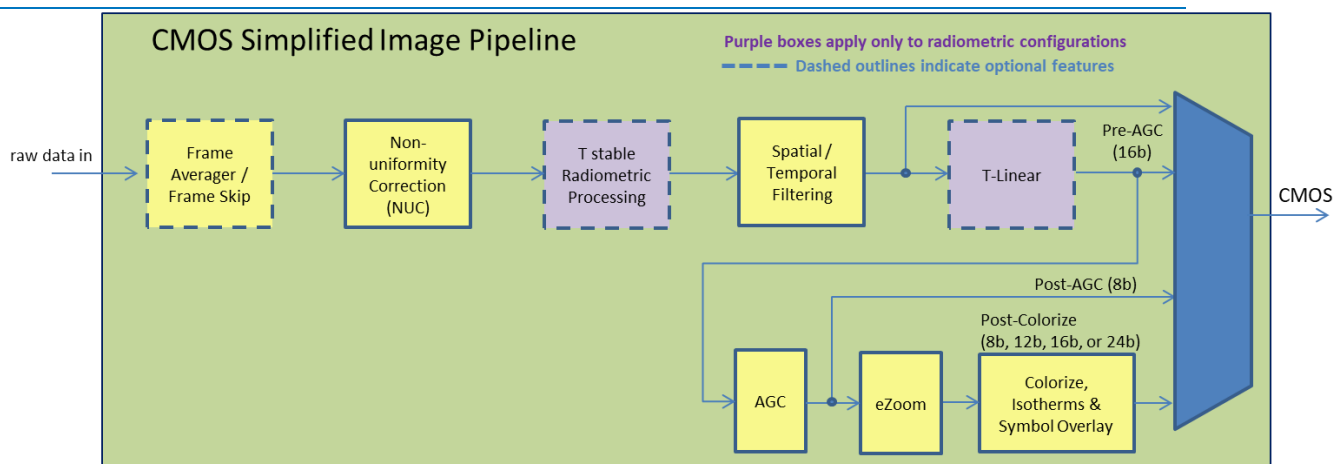

FIGURE 54: BOSON+ SIGNAL PIPELINE – CMOS OUTPUT ENABLED
As described in Section 5 and shown in Figure 54, there are multiple locations in the signal pipeline where video can be tapped for output on the CMOS channel. Boson+ provides the following CMOS video-tap modes:
- **Radiometry Enabled Pre-AGC (16-bit) (factory default with Radiometry enabled):** On Radiometry enabled cameras the T-stable or T-linear tap point is available. See Figure 54, as well as Section 7.7.